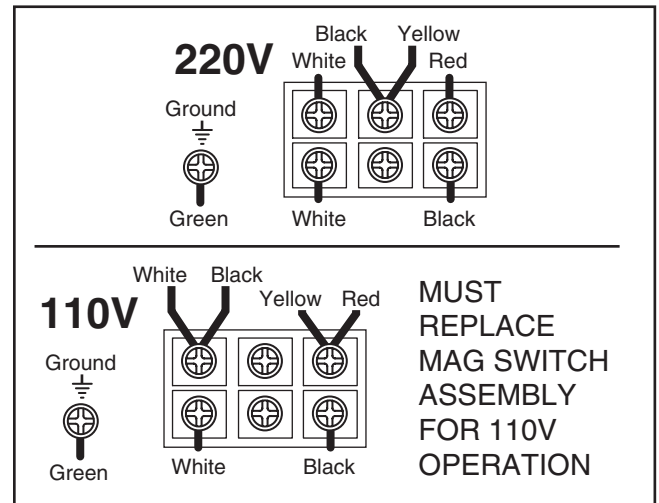

Figure 14. 220V motor wiring.
- Connect motor in accordance with the diagram on the inside cover of the motor junction box (if that diagram is not available, use **Figure 14**). For additional help, refer to **Page 35**.